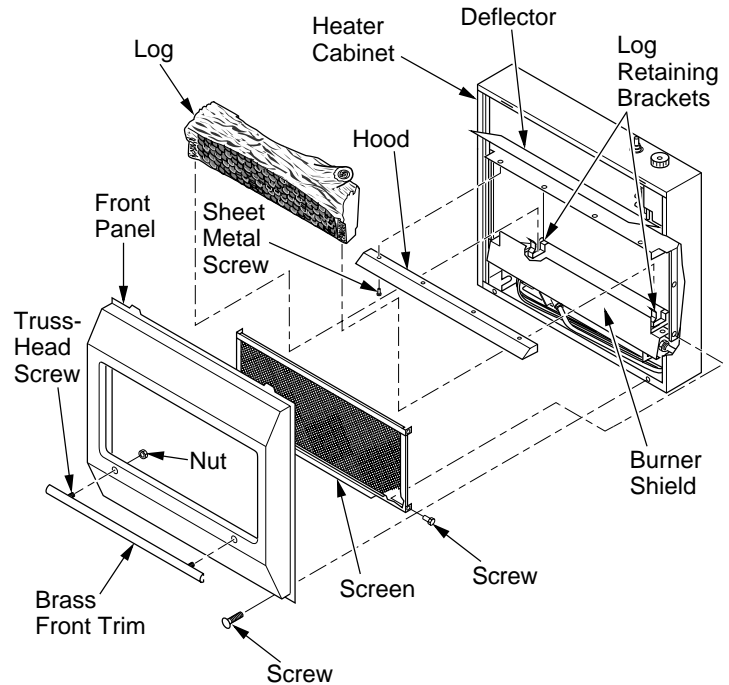

Figure 3 - Assembling Heater
3. Place hood on deflector and line up holes (see Figure 3).
3. Gently slide log between log retaining brackets on deflector assembly (see Figure 3). The log should fit firmly against bottom of log retaining brackets.
3. Line up screws with holes in front panel (see Figure 3, page 4). Insert screws in holes. Attach nuts from inside of front panel. Tighten with wrench.